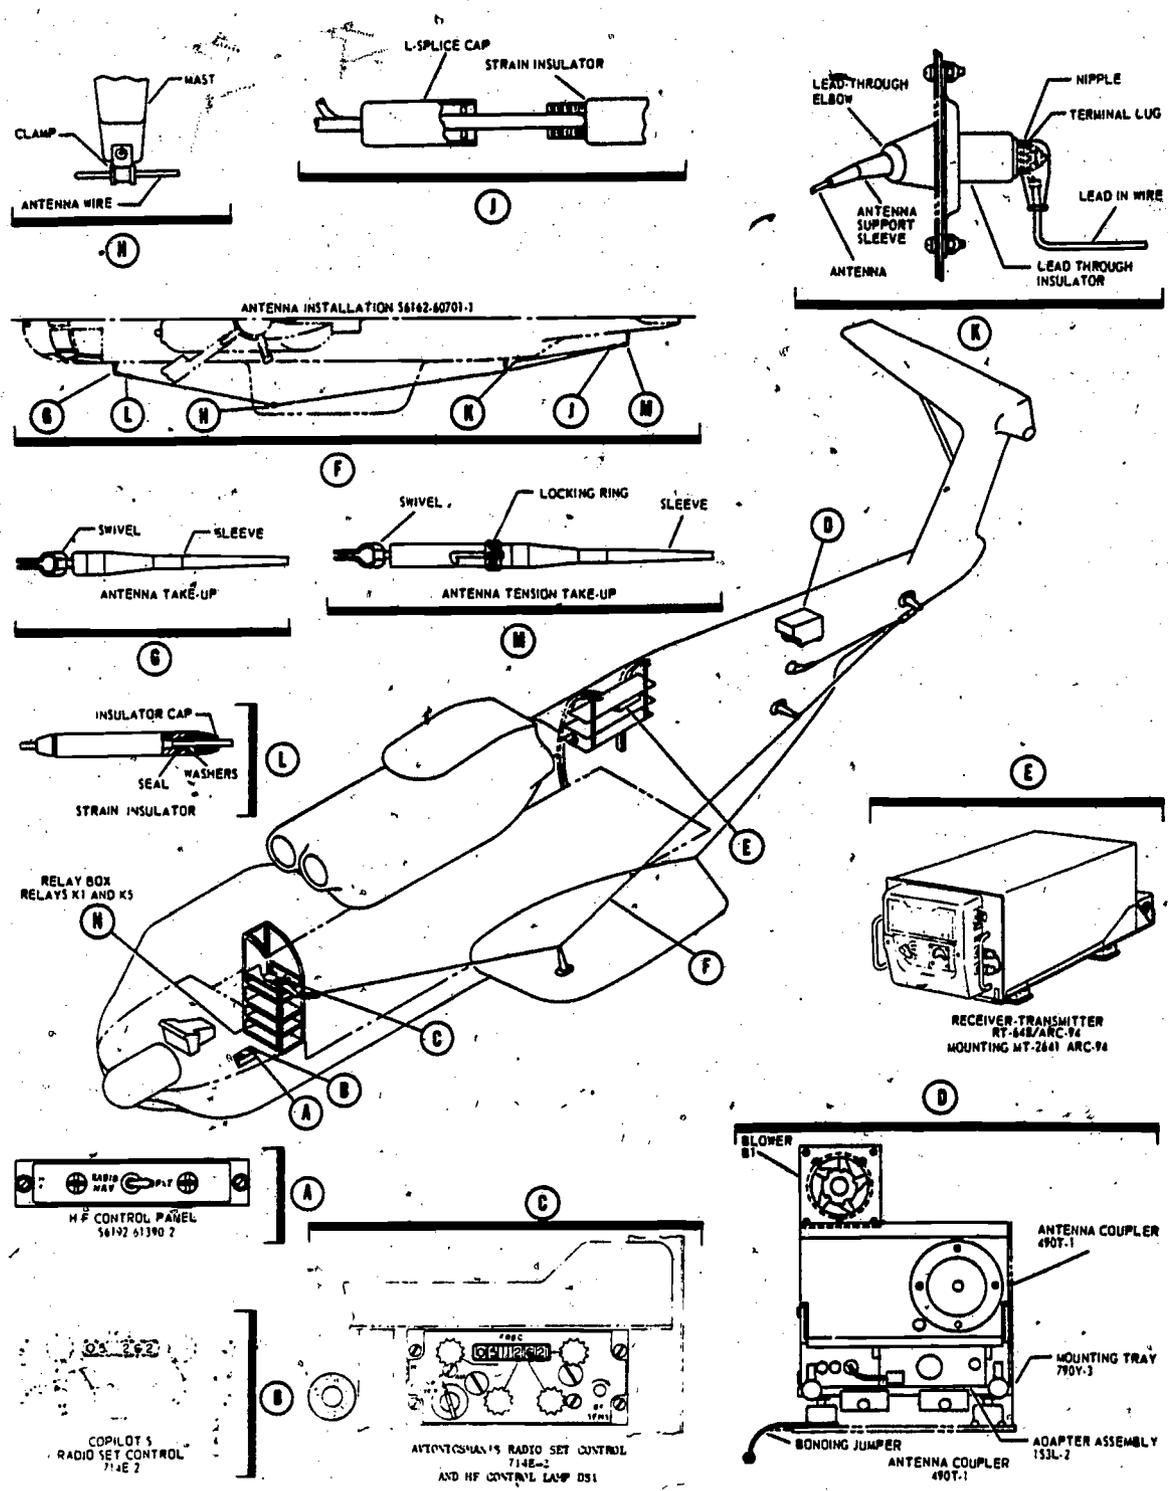

Figure 7-4. HF/COMM system components - location diagram.
antenna, a coupler and a coupler blower. The system provides two-way voice communication between land-based, seaborne and airborne stations. The operating frequency range is from 2.0 to 29.999 MHz, divided into 28,000 discrete channels in one KHz increments. The HF/COMM system receives and transmits on either single sideband (USB or LSB) or amplitude modulated equivalent (AM). The receiver transmitter and the coupler blower are both powered by the No. 2 AC primary bus. The radio set uses 400-Hz three-phase 115-volt AC, and the coupler blower uses 400-Hz single-phase 115-volt AC power. Each unit is protected by a circuit breaker on the pilot's circuit breaker panel. The circuit breaker is under the general heading NO. 2 AC PRI. The receiver and transmitter circuit breaker is marked HF, and the coupler blower circuit breaker is marked HF COUPLER BLOW 0B. The control circuit illuminates the avionicsman's HF (figure 7-7) control light and is powered by the DC primary bus. This circuit is protected by a circuit breaker on the pilot's circuit breaker panel. The circuit breaker is under the general headings DC PRI and is marked HF. (See figure 7-4.)